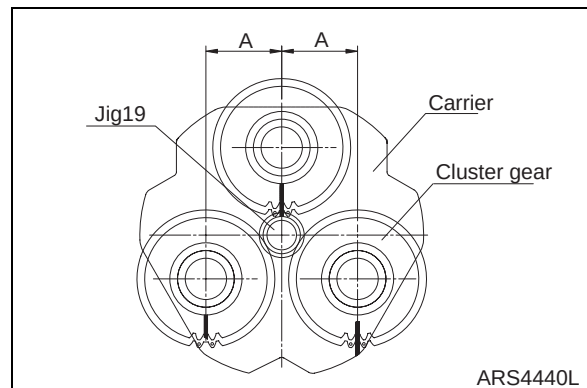

Figure 79
1. Make mark "C" of cluster gear (6) of carrier subassembly face like Figure 79.
2. Insert jig (19) to make spline side face upward like shown in Figure 79.